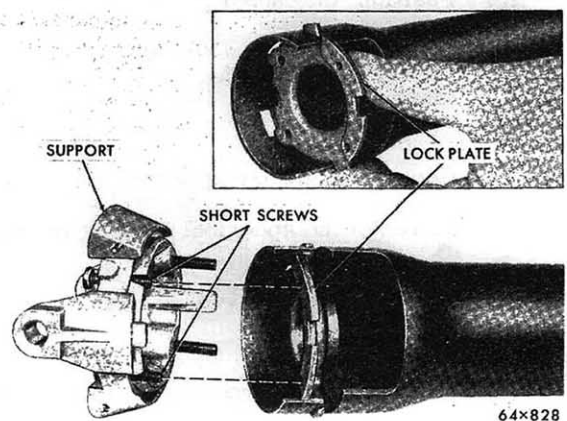

Fig. 28 - Removing or Installing the Actuator Housing Support and Lock Plate
- (15) Remove the actuator housing support screws (4) then lift the support from the jacket tube. Note the position of the screws. The two short screws are installed in the raised section of the lock plate (Fig. 28).
- (16) If necessary to remove the lock plate, release the plate from the notches in the jacket tube, tilt the raised section and remove.
- (1) Install the actuator housing lock plate (if removed) by indexing with the openings in the jacket tube and snapping in place (Fig. 28).
- (2) Position the actuator housing support in the jacket tube and aligning the holes in the actuator housing with the holes in the lock plate noting that the two short screws are installed in the raised section of the lock plate (Fig. 28). Tighten the four screws securely.